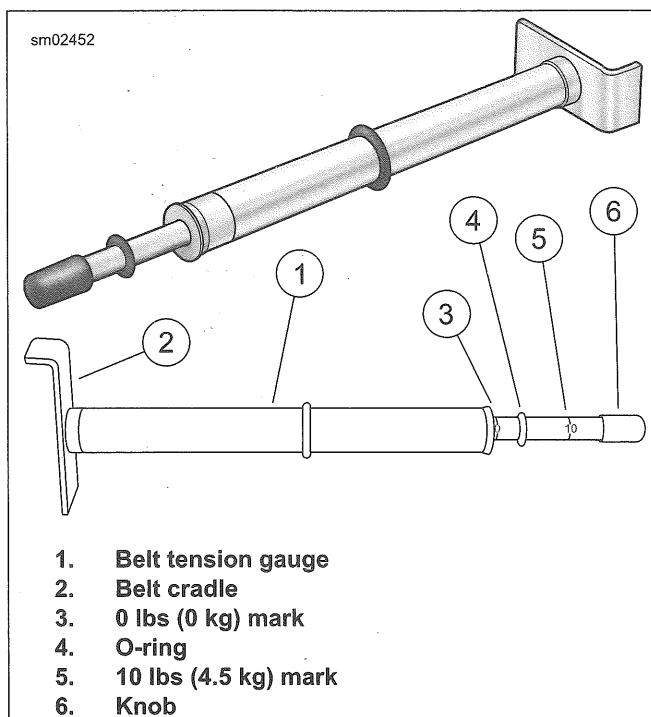

Figure 2-34. Belt Tension Gauge
3. See Figure 2-34. Measure belt deflection using: